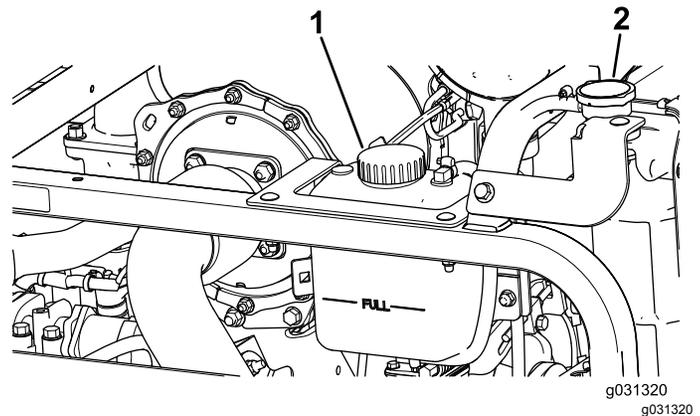

Figure 119
1. Carefully remove the radiator cap and expansion-tank cap (Figure 119).
2. Check the coolant level in the radiator (Figure 119).